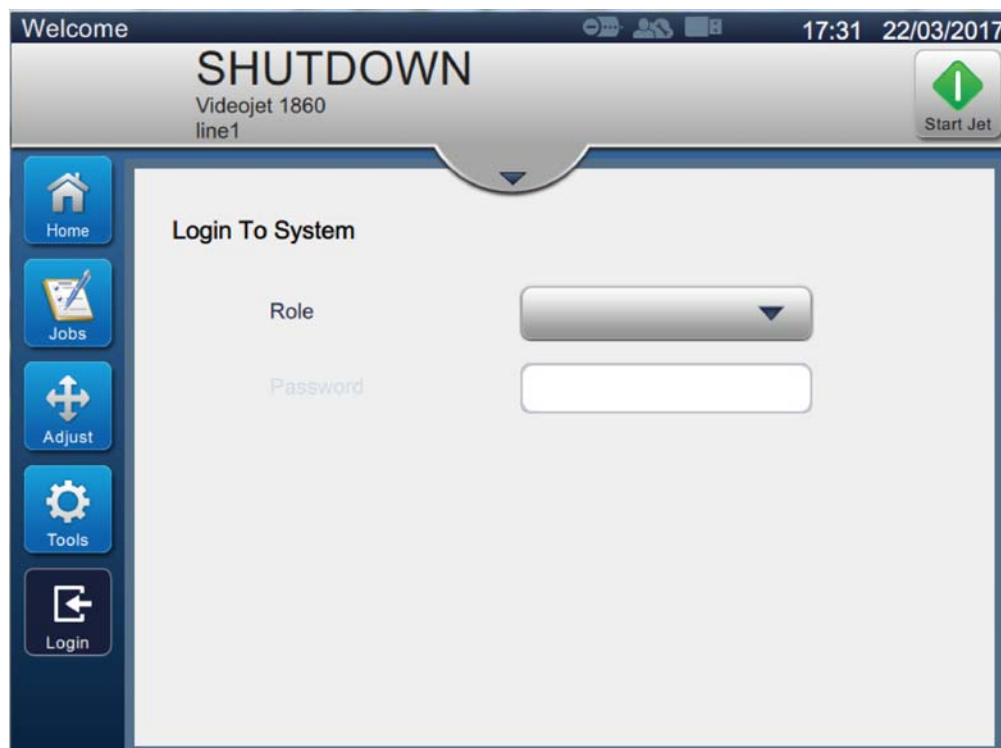

Figure 4-2: Login screen
1. Touch the  button to open the Login To System screen as shown in Figure 4-2.